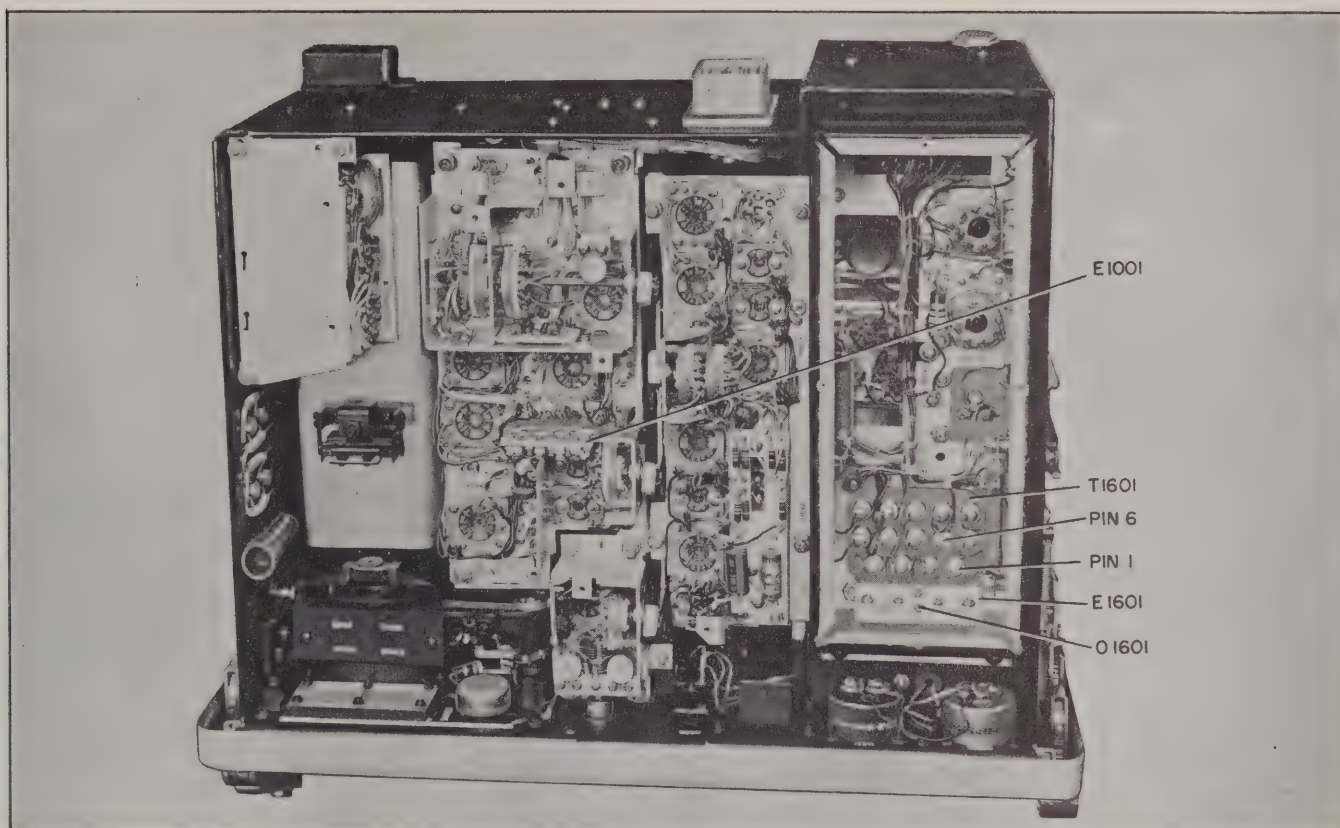

Figure 3-9. Initial Adjustment Component Locations, Top View
b. PRIMARY TAP SETTINGS.—Set the link O1601 on board E1601 in the power supply assembly to most nearly correspond to the anticipated line voltage. Link board E1601 is accessible from the top of the chassis after the cover plate on the power supply is removed. (See figure 3-9.) Taps on E1601 are labeled 105, 115, and 125. If the receiver is to be operated from a 400-cycle supply, unsolder and remove the lead connected to pin 1 of T1601 and connect it to pin 6.
c. OUTPUT TRANSFORMER TAP SETTINGS.—Refer to the particular installation plan in use, and check whether it calls for a grounded or ungrounded secondary tap (pin 6) of the output transformer, T1101. Then check T1101 of the equipment to see if it conforms with the installation plan. If it does not conform with the installation plan, remove or insert the grounding wire as necessary to meet the requirements of installation plan (the ground wire of T1101 pin 6 should be connected between pins 6 and 4 of T1101). See figure 3-9 for the location of T1101.
are shown in figure 3-12. See figure 3-9 for link board locations.